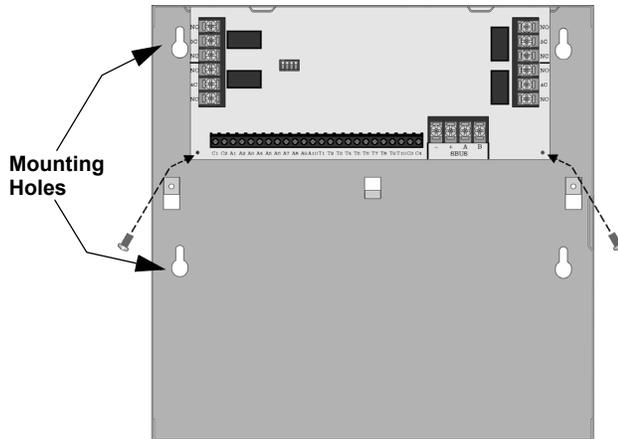

Figure 4: Model SK-5280 Remote Installation
1. Mount the remote cabinet using the cabinet mounting holes. See Figure 4.
3. Mount the SK-5280 onto the standoffs and bracket located in the cabinet. See Figure 4.